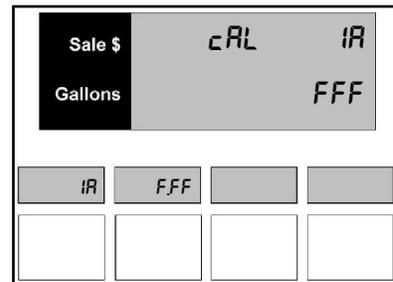

Figure 27.1 – Current E-Cal
1. Press the number **2** and **7**, then the **Mode** button on the keypad. The first display shows the current electronic calibration correction constant of the first configured meter as shown in *Figure 27.1*. Use the ↑ button or ↓ button to view the current electronic calibration correction constant for each configured meter. Once you are viewing the desired meter, press **Enter**.